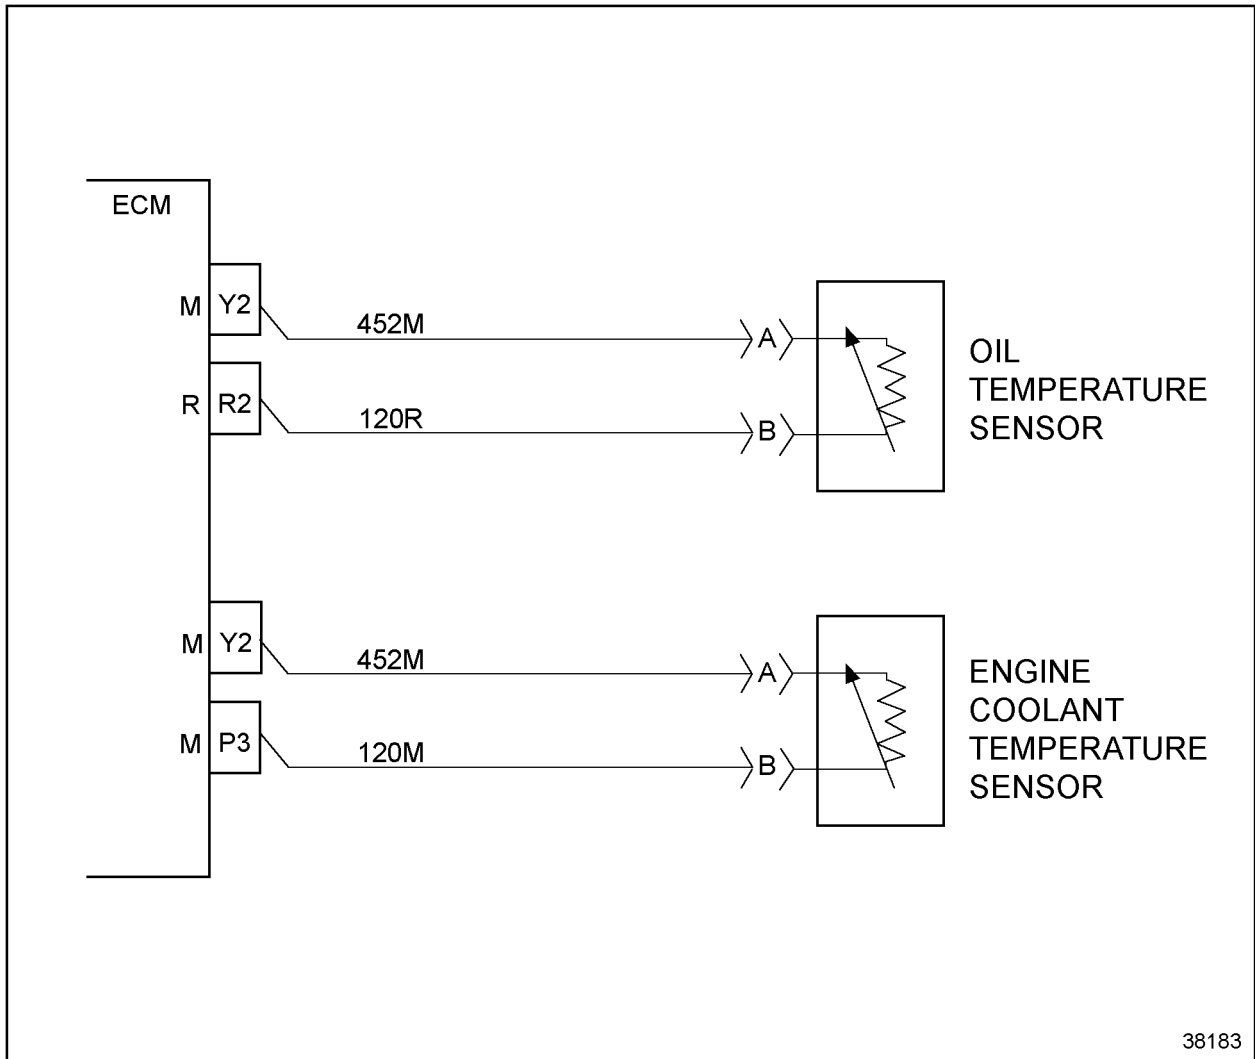

Figure 15-4 **Temperature Sensor Circuits**
1. Check terminals at the OTS connector (both sensor and harness side) for damage: bent, corroded and unseated pins or sockets. See Figure 15-4.